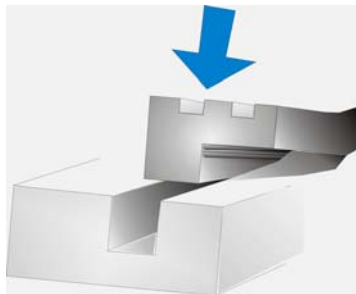

Figure 8-1: Gasket Replacement
Step 2: Attach the new gasket to the monitor. Make sure the gasket fits precisely into the groove along the edges of the monitor's front panel (**Figure 8-1**).